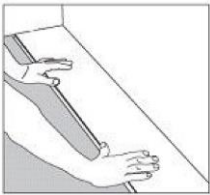

Figure 1
- Starting from the left with the tongue facing the wall, carefully place the first board in place (**Figure 1**).